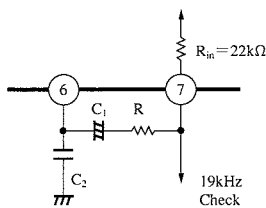
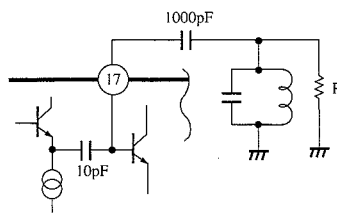

Fig.1
Fig.2
2. AM AF output can be adjusted by the resistor between Pin⑥ and Pin⑦. Frequency characteristics of AM AF output can be changed (Figure 1) by C_1 , R and input resistor R_{in} (22kΩ) of Pin⑦.
3. Pin⑦ becomes 19kHz check pin at FM mode. At this time, resistor R between the Pin⑥—⑦ becomes 19kHz load and cannot be 0Ω.
4. Driving current of the Pin⑧ stereo indicator is about 5 mA (max.).
5. VCO frequency is adjusted by the half-fixed VR of Pin⑪ (Monitor is Pin⑦). Adjusting range is more than 10kΩ.
6. FM AFC is used by rectifying IF detection output of Pin⑯.
7. FM detection uses Quad. detection. When R is changed by the circuit construction in the figure 2, FM output level changes. However, caution should be taken as stereo lamp light-on level, light off level and THD changes.